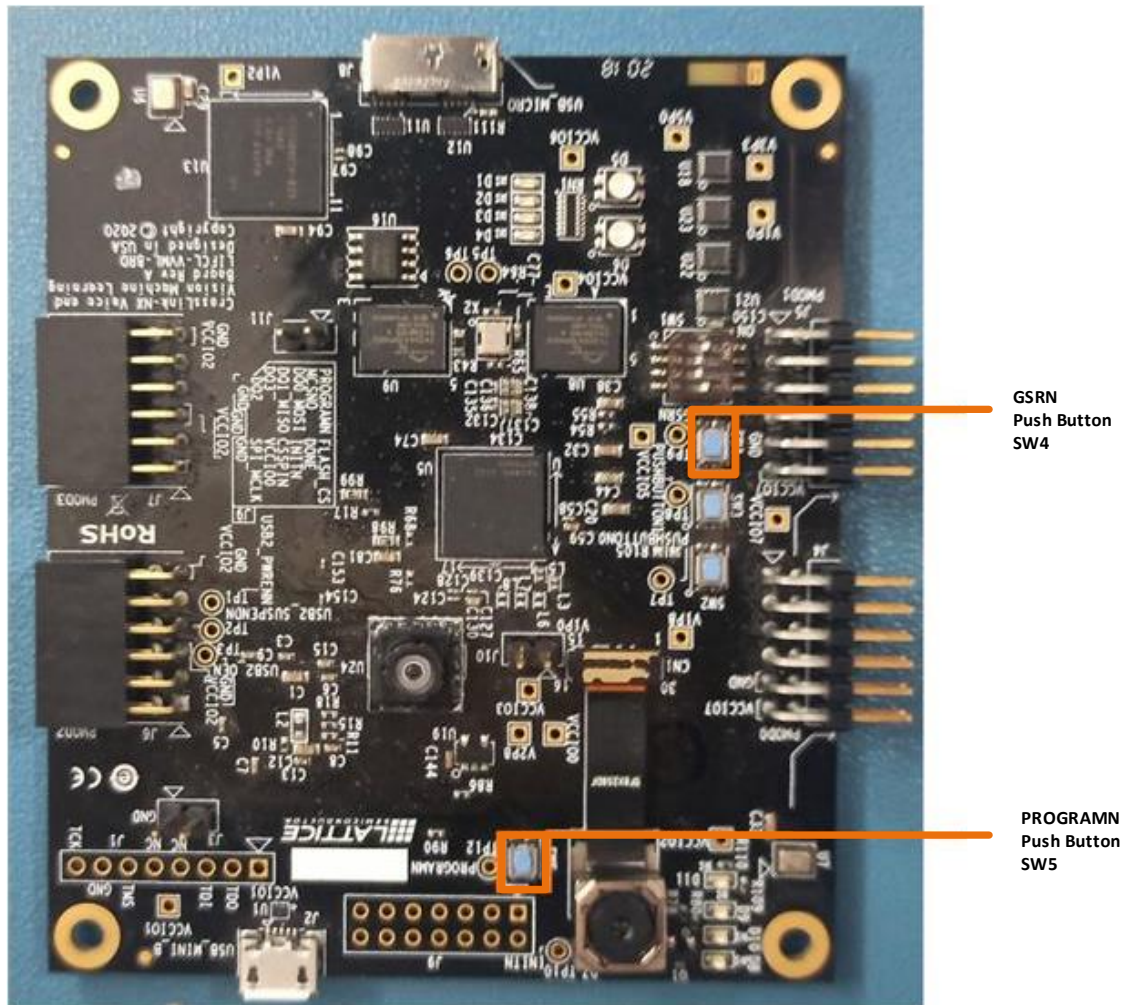

Figure 4.6. CrossLink-NX Voice and Vision Flashing Switch – SW5 Push Button
5. Press the **SW5** push button switch before clicking **Program** button as shown in Figure 4.6. Hold it until you see the *Successful message* in the Radiant log window.